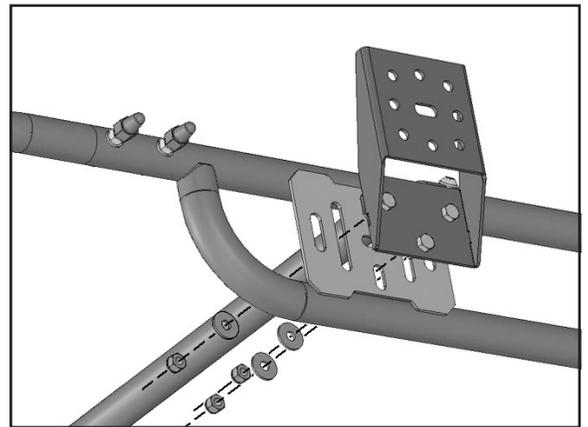

FIGURE 26
20. Attach each Offset Accessory Mount to the Top Rail as desired with the included (3) 8mm Nylon Lock Nuts and (3) 8mm x 24mm Flat Washers. (**FIGURE 26**).